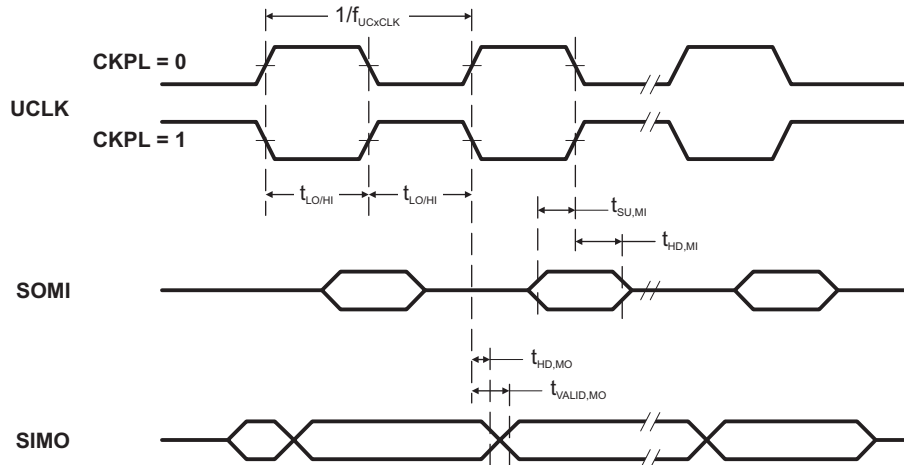
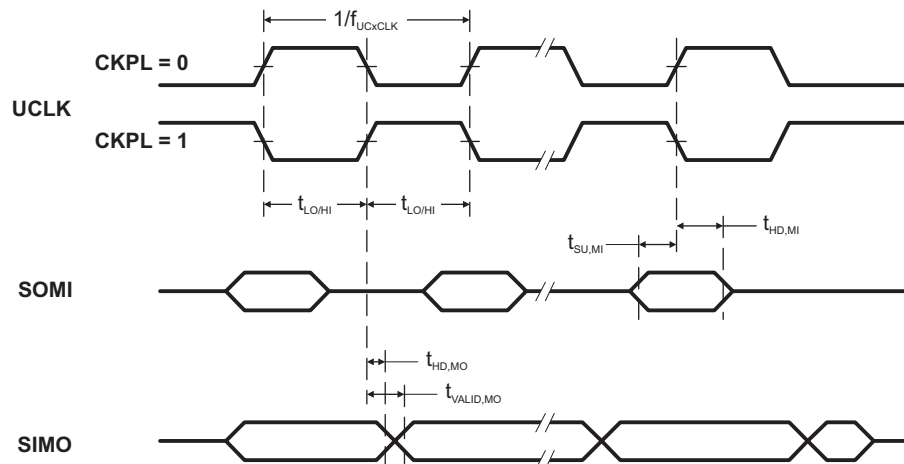

Figure 7. SPI Master Mode, CKPH = 0
Figure 8. SPI Master Mode, CKPH = 1
(see Note (1), Figure 7 and Figure 8)
- (2) Specifies the time to drive the next valid data to the SIMO output after the output changing UCLK clock edge. See the timing diagrams in Figure 7 and Figure 8.
- (3) Specifies how long data on the SIMO output is valid after the output changing UCLK clock edge. Negative values indicate that the data on the SIMO output can become invalid before the output changing clock edge observed on UCLK. See the timing diagrams in Figure 7 and Figure 8.
- (2) Specifies the time to drive the next valid data to the SOMI output after the output changing UCLK clock edge. See the timing diagrams in Figure 7 and Figure 8.
- (3) Specifies how long data on the SOMI output is valid after the output changing UCLK clock edge. See the timing diagrams in Figure 7 and Figure 8.